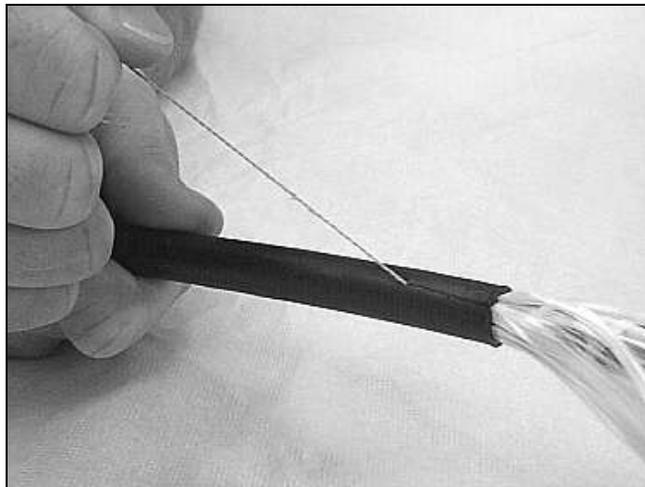

Figure 12 – Pull the ripcord through the inner jacket.
4.16 Locate and pull the inner ripcord to the first measured mark (Figure 12). A small starting slit and pliers can be used to help facilitate the pull.